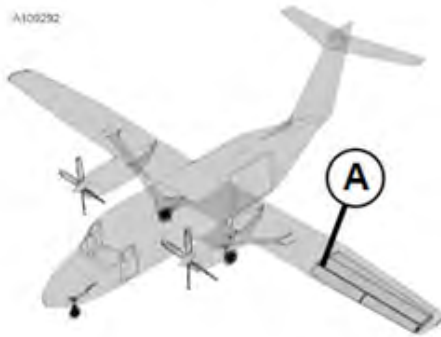

Figure 1
- (1) Prepare the Airplane for the Overwing Refueling.
- (d) Remove the fuel filler cap assembly. Reference Figures 1 and 2 of this section.